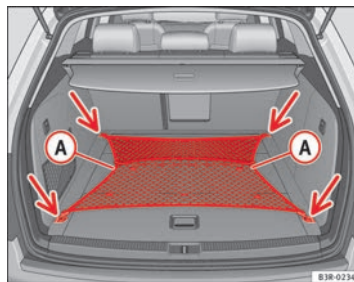

Fig. 117 Stretched luggage net
- Secure the luggage net to the four fastening rings -arrows- ⇒ Fig. 117.